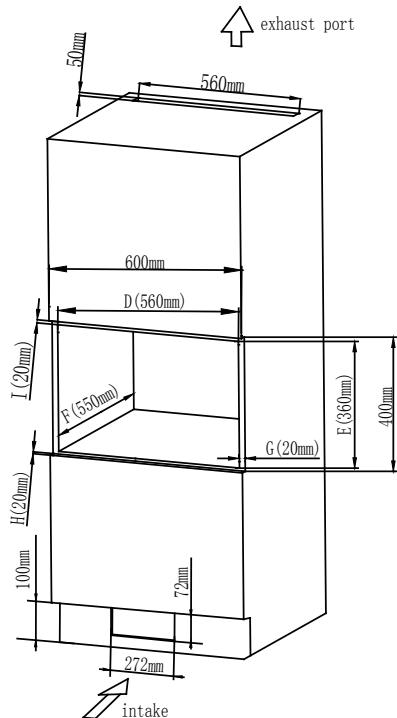

Fig.5
Opening size: (D)560±2 x (E)360±2 x (F)550±2 (mm) as shown in Fig.5 "D", "E", "F".